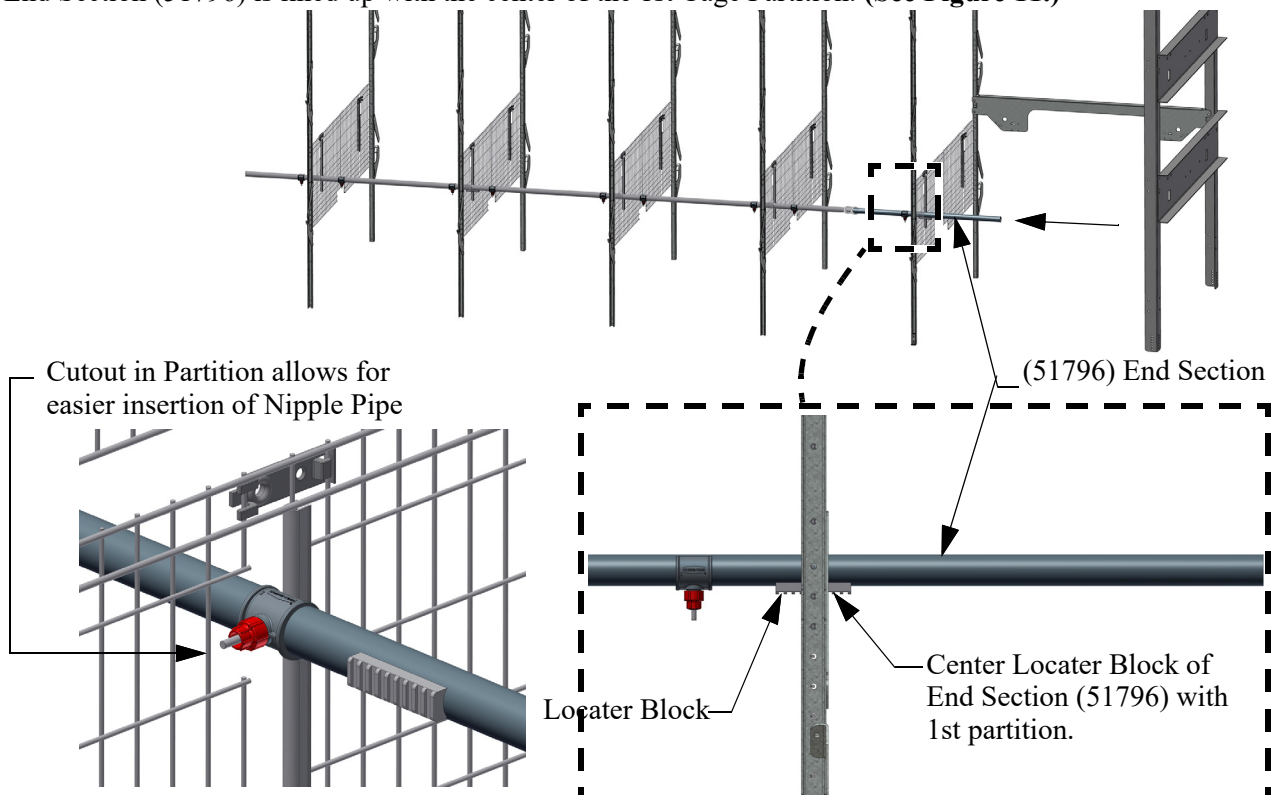

Figure 11. Water Line Installation
2. Thread the Nipple Pipe through the openings cut in the cage partitions until the Locator Block of the Short End Section (51796) is lined up with the center of the 1st Cage Partition. (See Figure 11.)